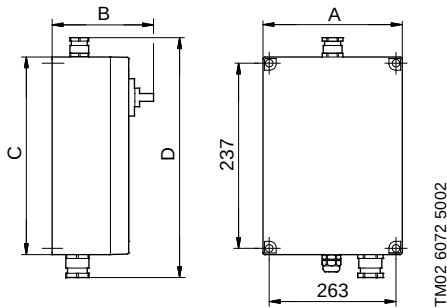

Fig. 6
- Remove the cabinet front and mount the control box on a plane surface with four screws through the mounting holes in the back plate of the cabinet, see fig. 6. The cable entries for the pump and the float switch must pointing downwards.